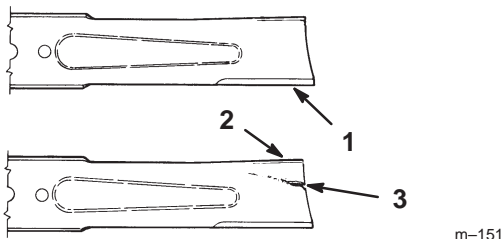

Figure 33
1. Inspect the cutting edges (Fig. 33). If the edges are not sharp or have nicks, remove and sharpen the blades; refer to Sharpening the Blades, page 31.
2. Inspect the blades, especially the curved area (Fig. 33). If you notice any damage, wear, or a slot forming in this area (item 3 in Fig. 33), immediately install a new blade.